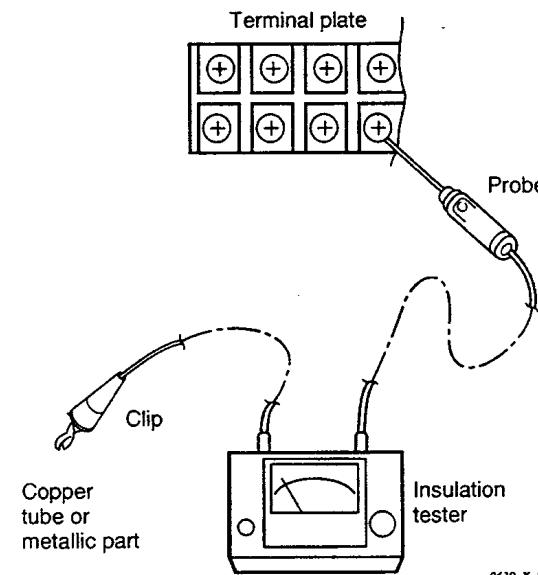

Fig. 7
Clamp an aluminum plate fin or copper tube with the lead clip of the insulation resistance tester and measure the resistance by placing a probe on the terminal plate (Fig. 7)
③ Outdoor Unit
Measure the resistance by placing a probe on the terminal plate in the same manner as explained above ②. (Fig. 7)